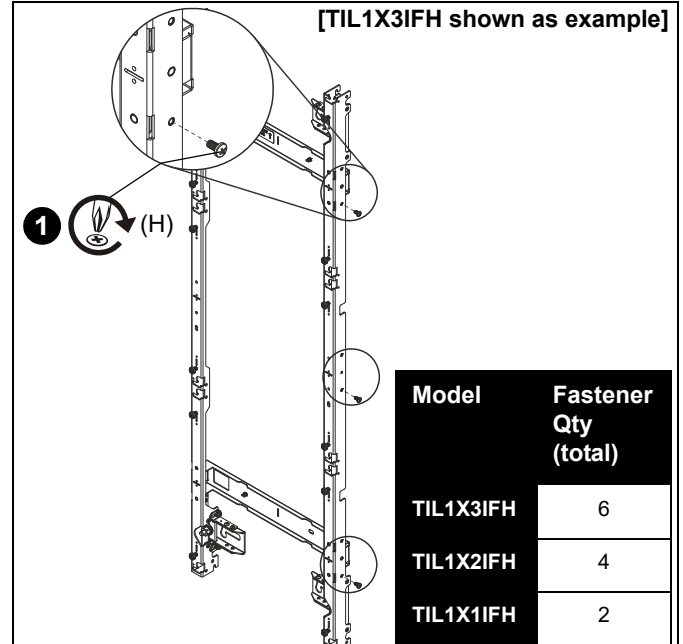

Figure 12
- Partially install one 1/4-20 x 1/2" Phillips head screw (H) into lower fastener hole in each mid-screen area on the right side of mount. (See Figure 12)
6. Slide the left (B) and right adjustment washers (A) into place behind the partially installed lag screws.
7. Slightly loosen the side connector screws, upper and lower, prior to adjusting the mount height. (See Figure 12)
10. Re-tighten connector screws, upper and lower. (See Figure 12)